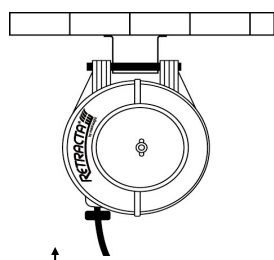

Fig.2 Overhead mounting (max height 4.5m)
- 2) Prevent the reel from swiveling in the overhead position (figure 2) by install locking bracket RB9 (supplied).